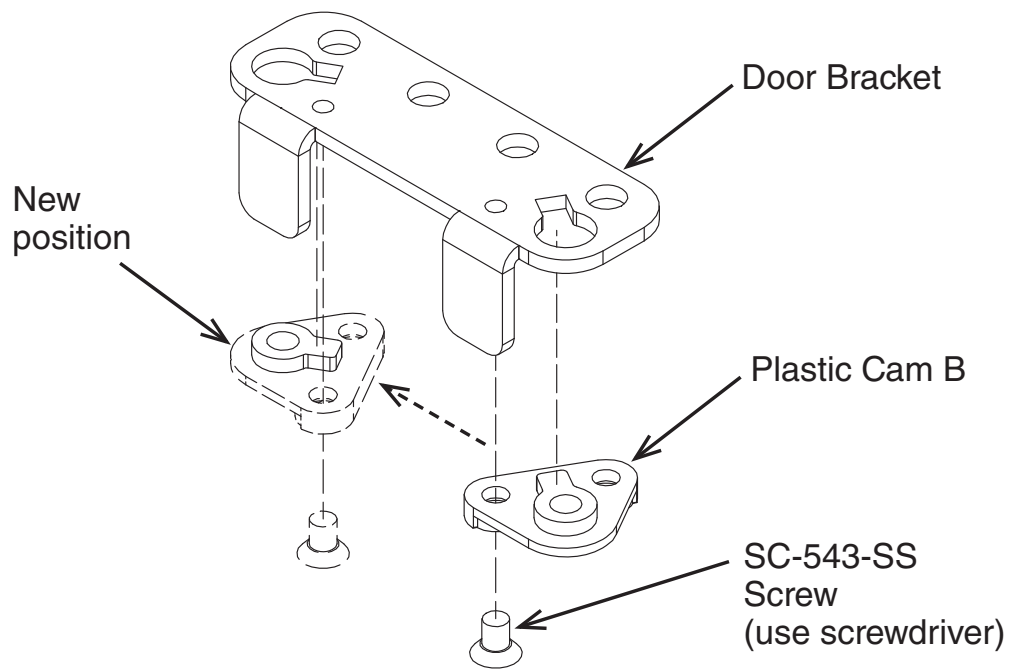

FIG. 7
**Step 5.** Remove the SC-543-SS screw and the Plastic Cam B from the Door Bracket, then attach them to the opposite side. See figure 7.